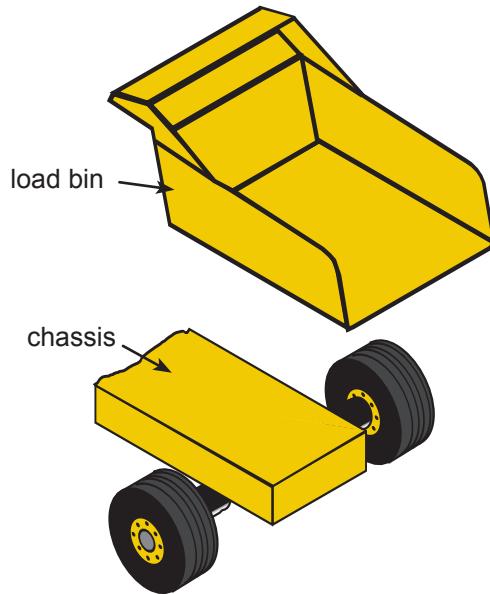

Fig. 18
- (v) Fig. 18 shows part of the rear end of the tipper truck.